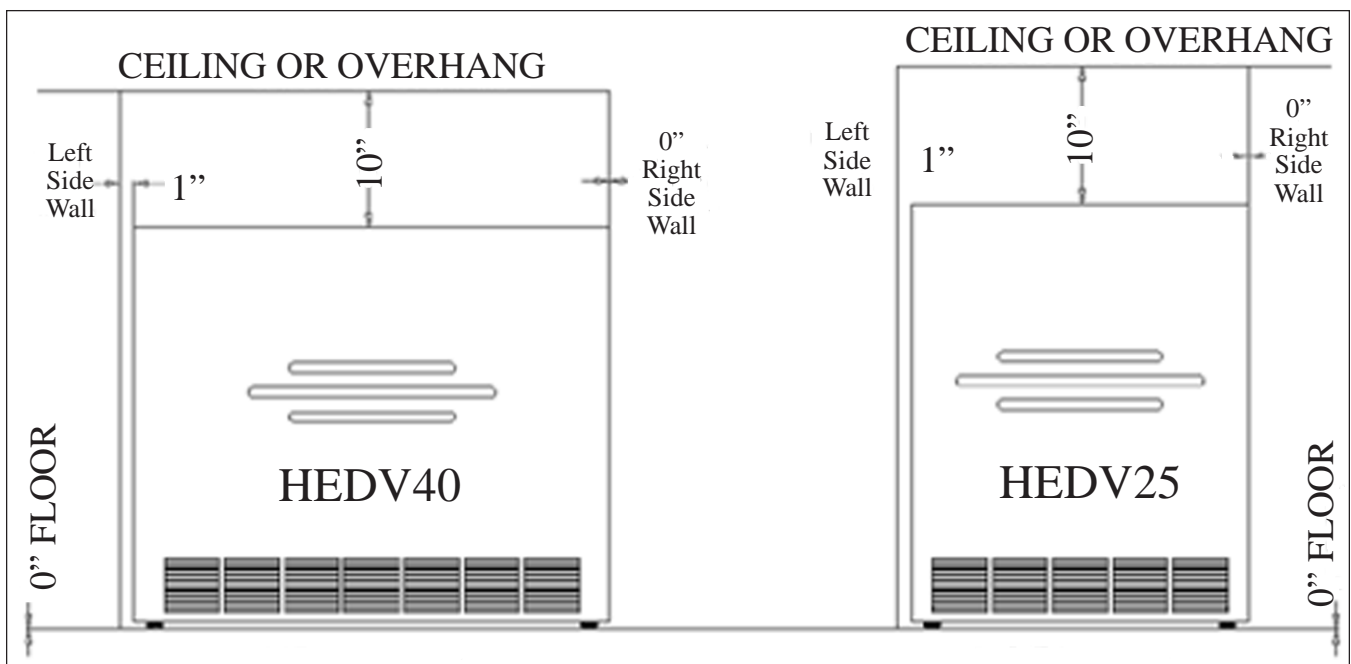

FIGURE 2
1. As you face the heater, the clearance to a side wall on the right side is 0" (Fig. 2), and the left side is 1" (Fig. 2).
2. The minimum clearance from the top of the heater to the ceiling or any projecting overhang is 10". (See Figure 2).
3. The minimum clearance from the bottom of the heater to the floor, or the top surface of carpeting, tile, etc. is 0". (See Figure 2).